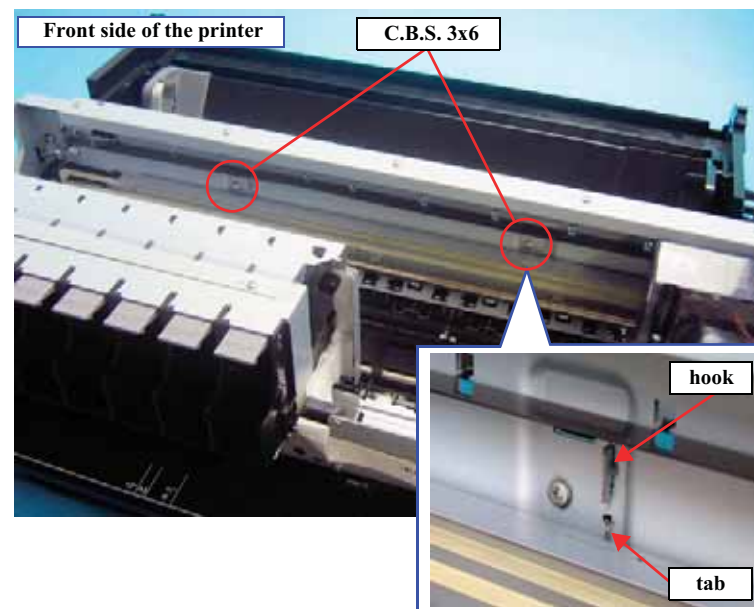

Figure 4-121. Screws, hooks and tabs that secure the GUIDE, ROLLER, LD
3. Remove the two screws that secure the left and right GUIDE, ROLLER, LDs, and remove the two GUIDE, ROLLER, LDs. *See Figure 4-121.*